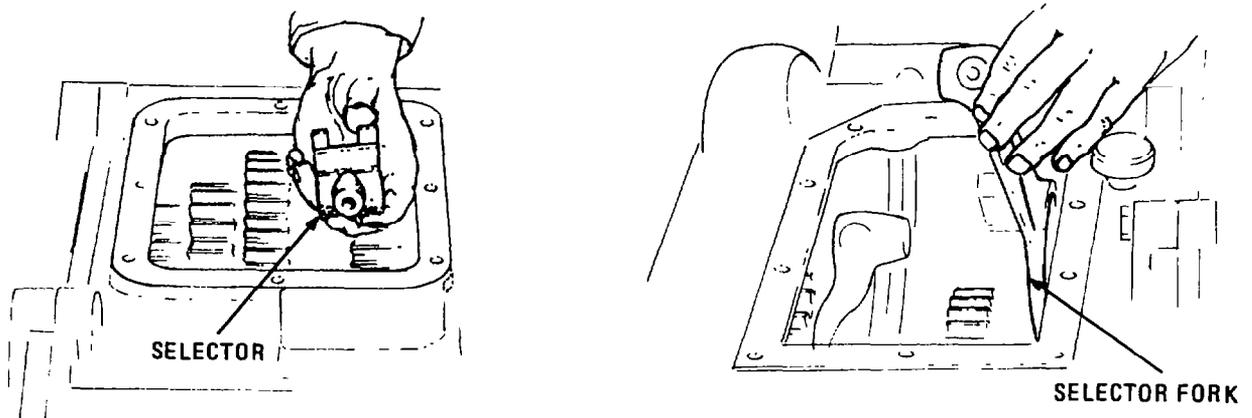

Fig. 171 — Removing Selectors, Selector Forks and Shafts
- Withdraw the selector shafts from the case, removing the selectors and selector forks as the shafts are withdrawn (see fig. 171).